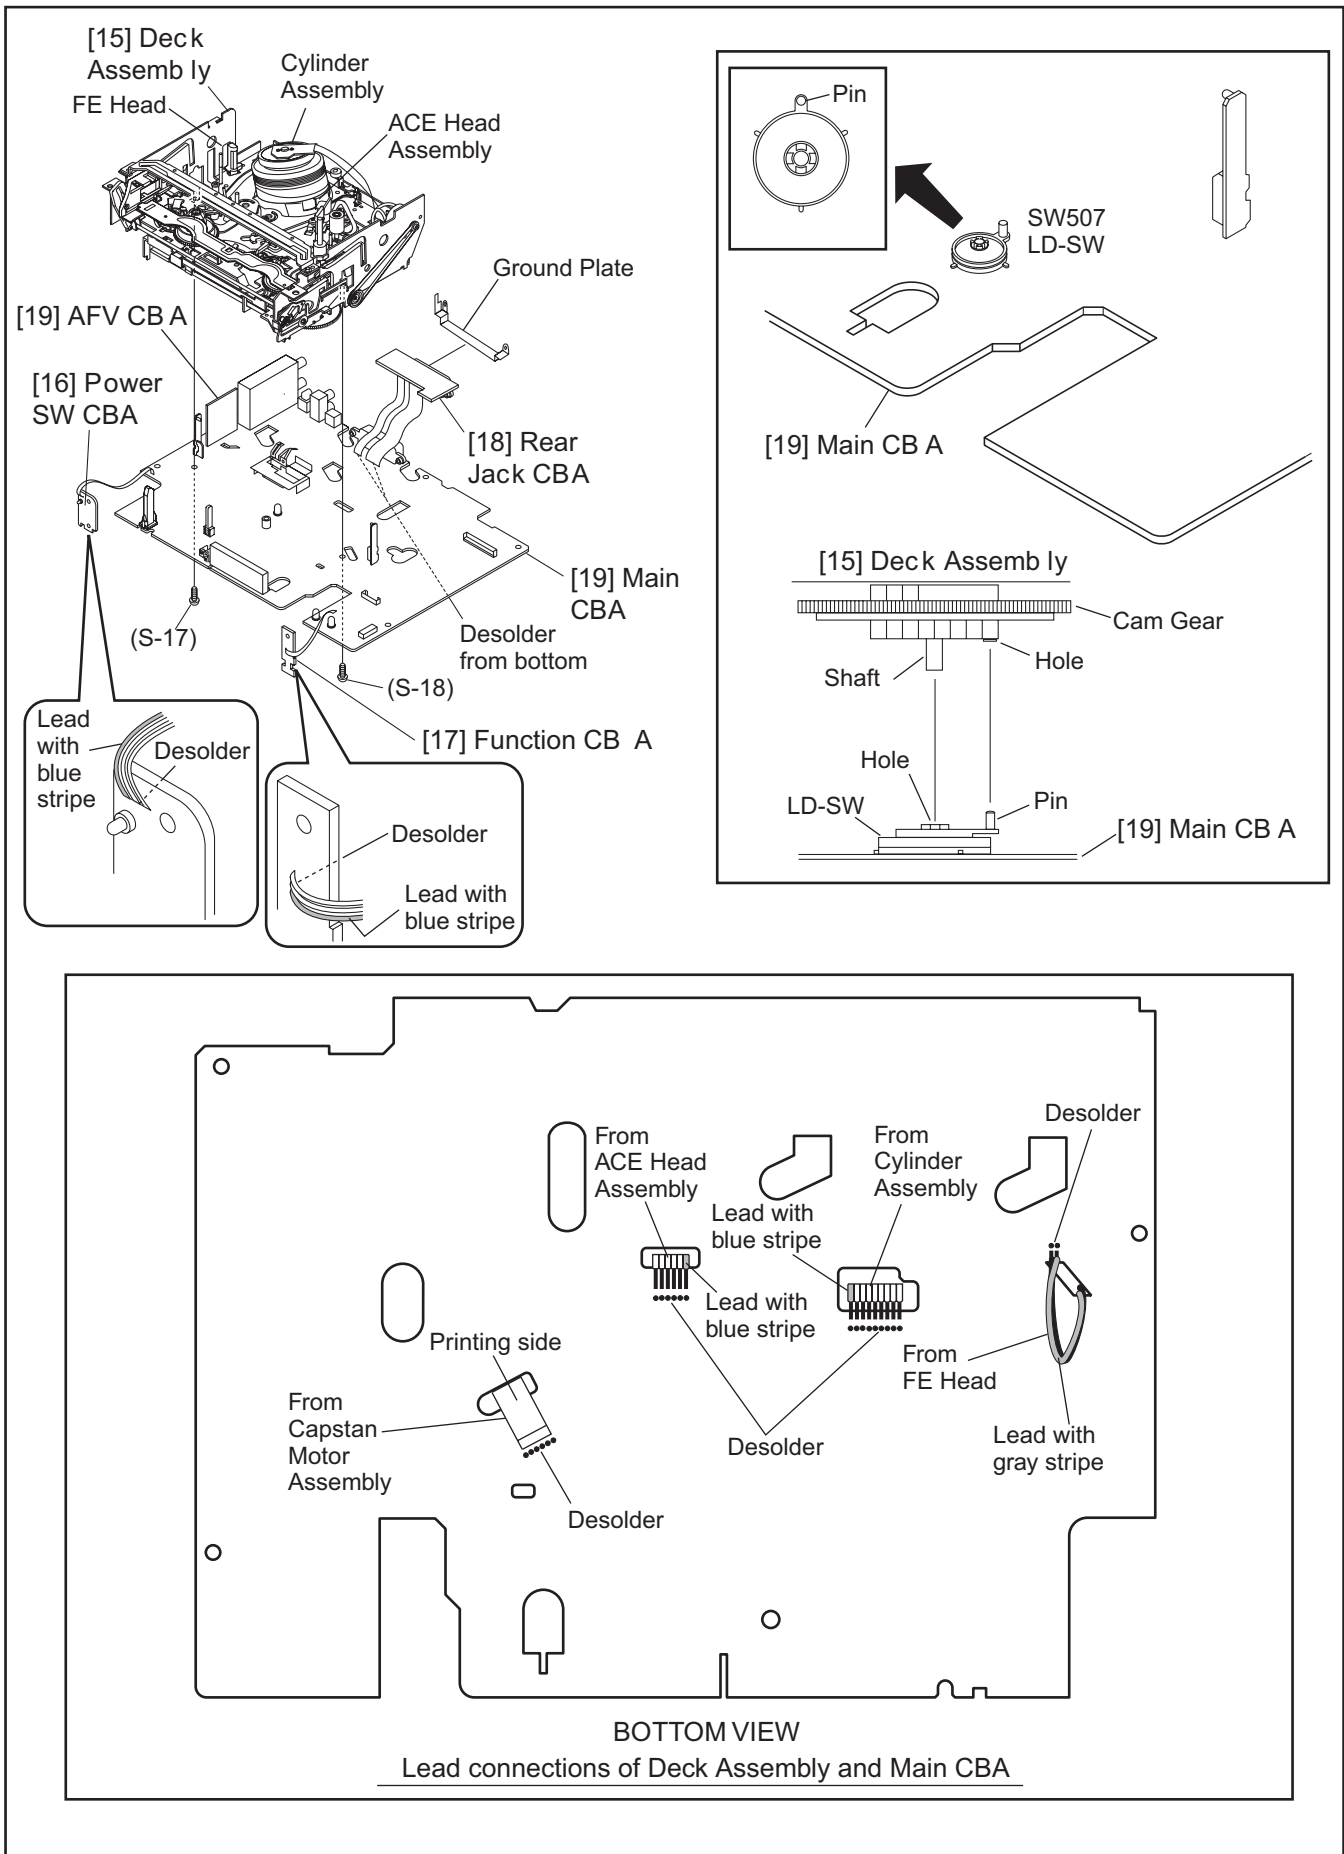

Fig.8
- (1)
- (2) When reassembling, solder wire jumpers as shown in Fig. 8.
- (3) Before installing the Deck Assembly, be sure to place the pin of LD-SW on Main CBA as shown in Fig. 8. Then, install the Deck Assembly while aligning the hole of Cam Gear with the pin of LD-SW, the shaft of Cam Gear with the hole of LD-SW as shown in Fig. 8.